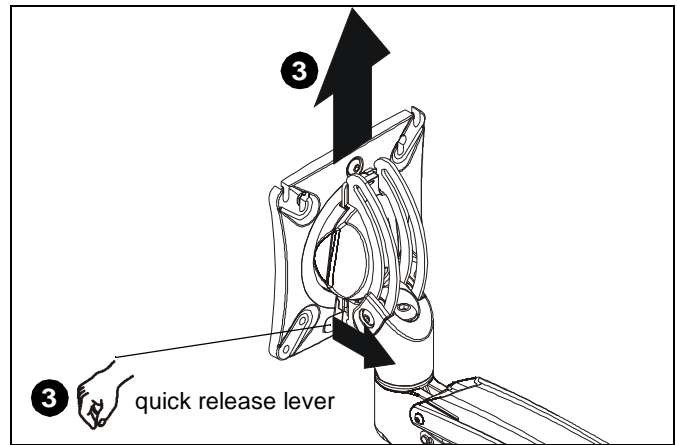

Figure 3
3. Remove quick release faceplate from K1W120 mount by pulling quick release lever and sliding faceplate off mount. (See Figure 3)